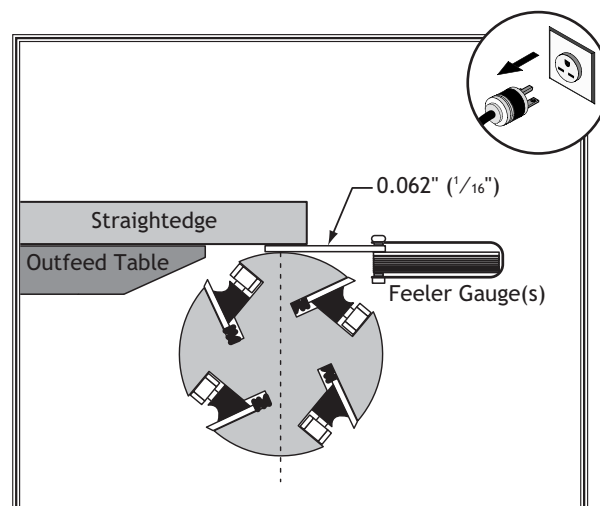

Figure 52. Using feeler gauge(s) to set outfeed table height.
5. Place the straightedge on the outfeed table so it hangs over the cutterhead, and lower the outfeed table until the straightedge is 0.062" ($1/16$ ") above the cutterhead body, as determined by using the feeler gauges (see **Figure 52**).